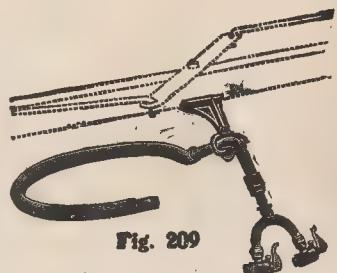

Fig. 209
sprayers, as shown in Fig. 209
**Middle Row Attachment.** Fig. 209.—This is applicable to Nos. 102 and 103 Sprayers only, and can be used only when Sprayers have the tongue equipment applied. It is quickly attached to the center of the sprayer bar, and is intended for use when spraying three rows of vine crops, such as cucumber, tomato, etc. It is intended to carry one or more nozzles, but with this attachment we furnish the twin coupling without nozzles. Price,